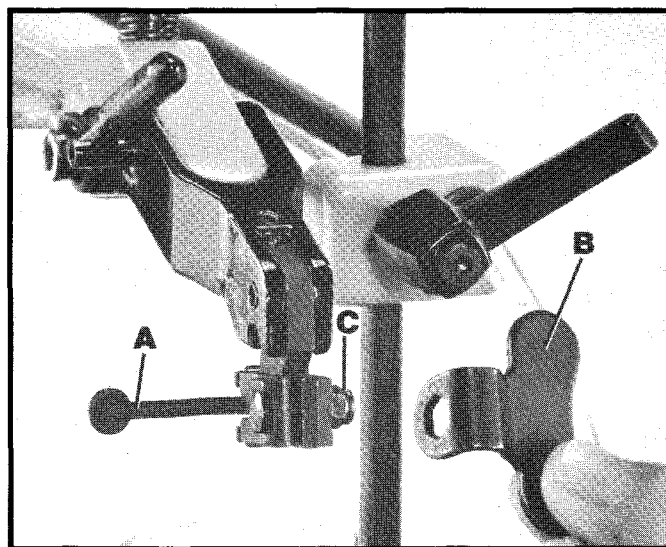

Fig. 30
1. Move the chuck locking lever (A) Fig. 30, to the rear (open) position, as shown.
2. Using the special wrench (B) Fig. 30, supplied, turn locknut (C) clockwise to tighten and counterclockwise to loosen the clamping action of the blade holder. Very little movement of locknut (C) will be necessary.